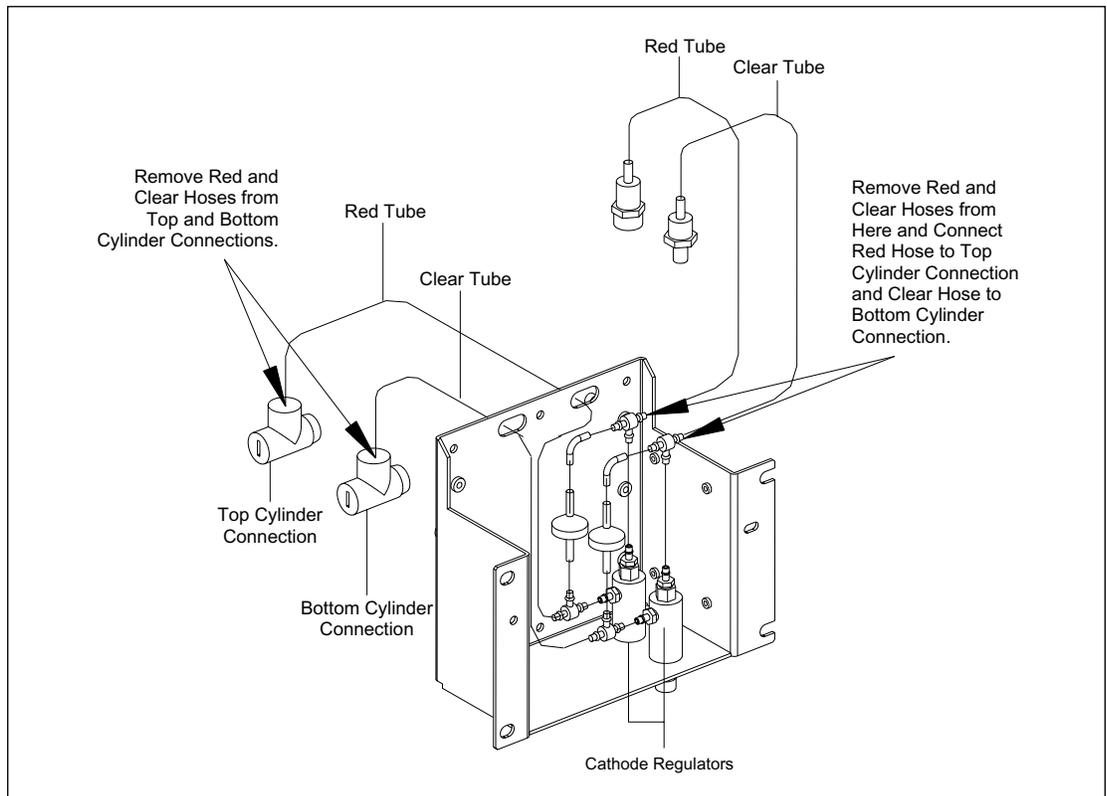

Figure 8-18. Cathode Regulators.
3. Cut the green hose coming from the pneumatic panel (J5) and install the in-line low pressure relief valve (figure 8-18).
4. Detach the red and clear hoses from the regulator section of the cathode assembly and attach them directly to the cylinder, bypassing the regulators (figures 8-18 and 8-19).